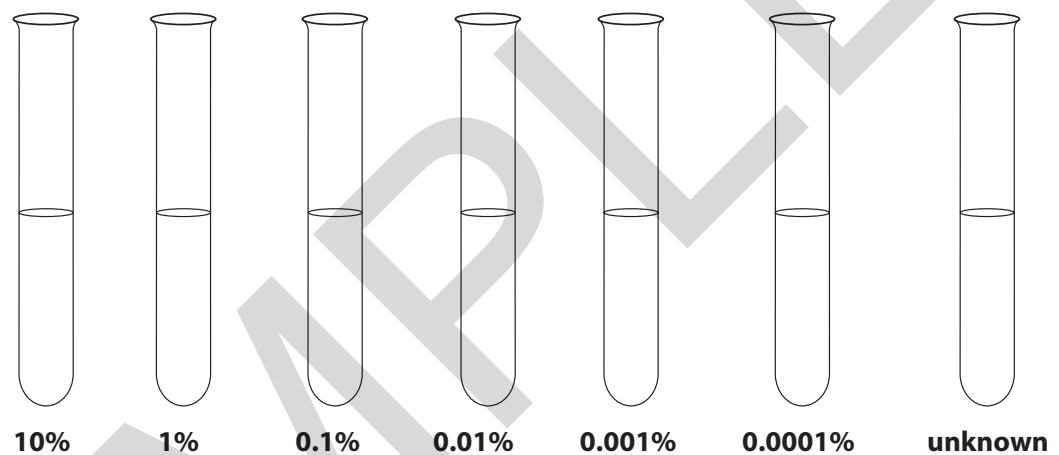

Figure 2.3
- 6 Record the colours of the test tube by either taking a photograph of the rack and sticking it in this workbook, or colouring the test tubes in Figure 2.3 in the Results section below the appropriate colours.